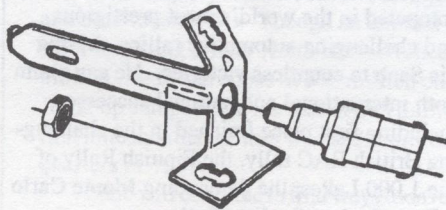

Figure 3. Installing new brake pedal switch
10. Insert a new brake pedal switch fully up to the housing in the same direction as the original switch. (See Figure 3.)